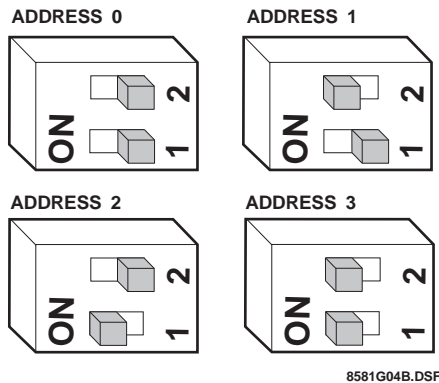

Figure 5. Setting the Touchpad's Device Address
2. Set the DIP switches to an address different from all other bus devices connected to the panel. Figure 5 shows the possible touchpad unit number settings.
2. Change the DIP switch setting on the back of the LED touchpad (see Figure 5). Remember, the setting must be different from all other bus devices.